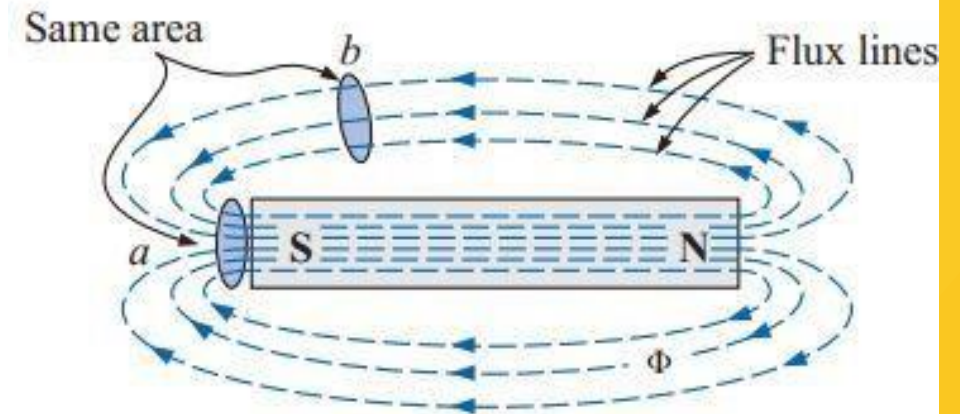

FIG. 11.1
- Magnetic flux lines, however, do not have origins or terminating points as do electric flux lines but exist in continuous loops, as shown in Fig. 11.1. The symbol for magnetic flux is the Greek letter ϕ